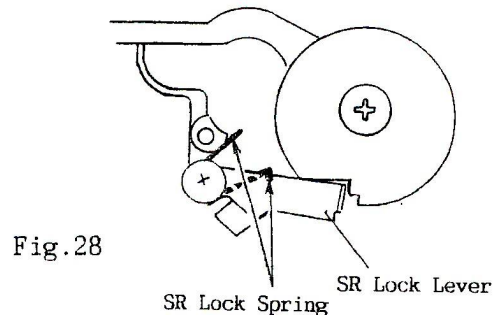
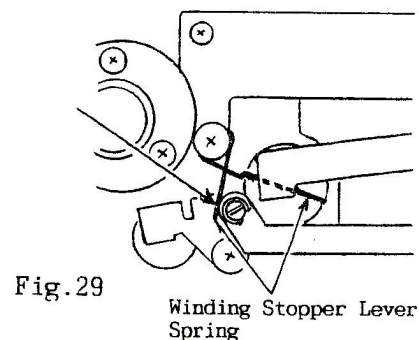

Fig.28
Fig.29
- 25) Put the SR Lock Spring (1474400) and SR Lock Lever (14743900) together and tighten them with the SR Lever (3) Shaft Screw (14743700).
- 26) Set the SR Lock Spring as shown in Fig.28.
- 27) Install the SR Lever (3) Ass'y (1AEAA300) and tighten it with the SR Lever (3) Shaft Screw (14743700).
- 29) Insert the post of the SR Lever (3) in the hole of the SR Lever Ass'y and install the E Ring (E-12) (66001225).
- 31) Pass the SR Lever (3) Shaft Screw (14743700) through the Winding Stopper Lever Spring (14761400) and tighten it.
- 32) Set the Winding Stopper Lever Spring as shown in Fig.29.